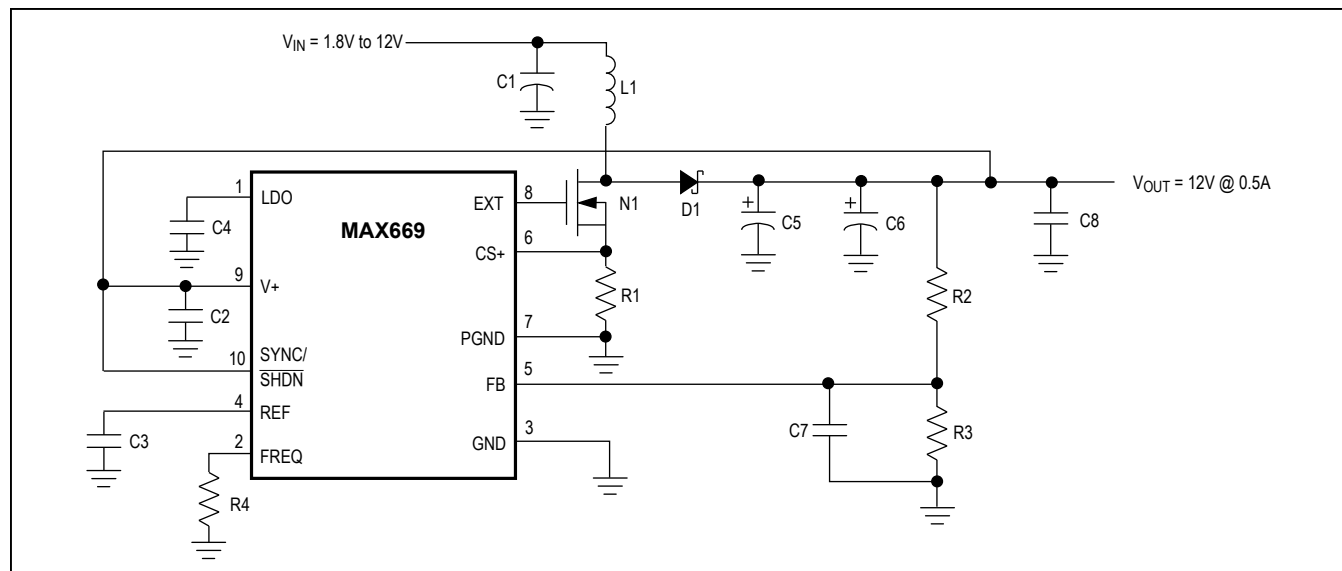
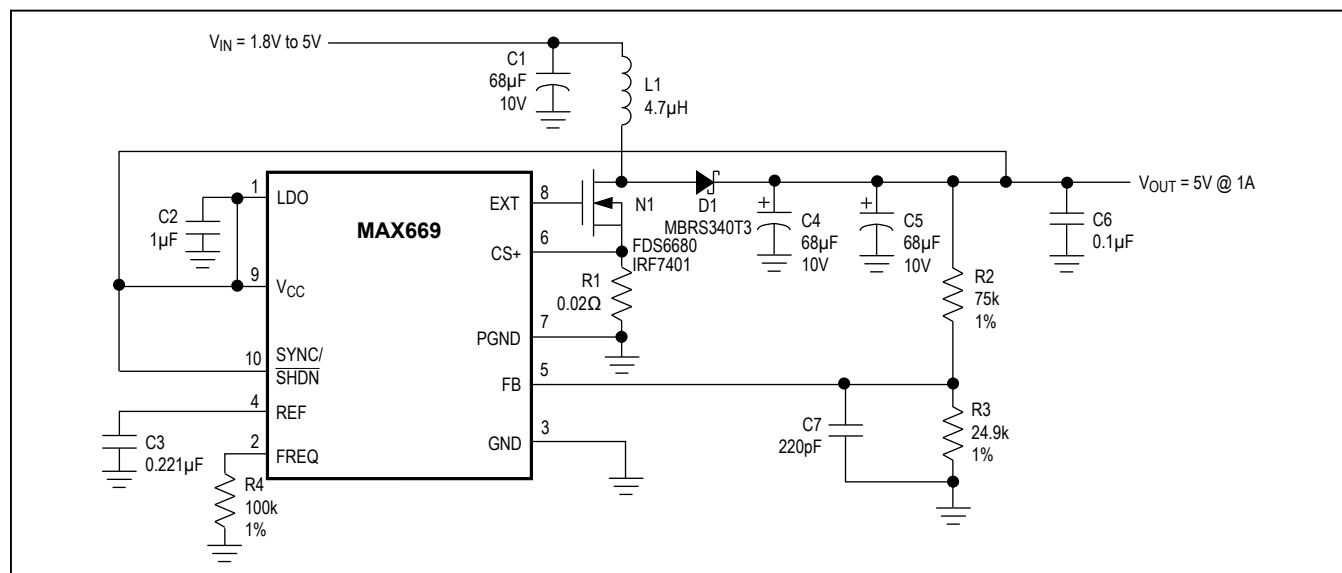
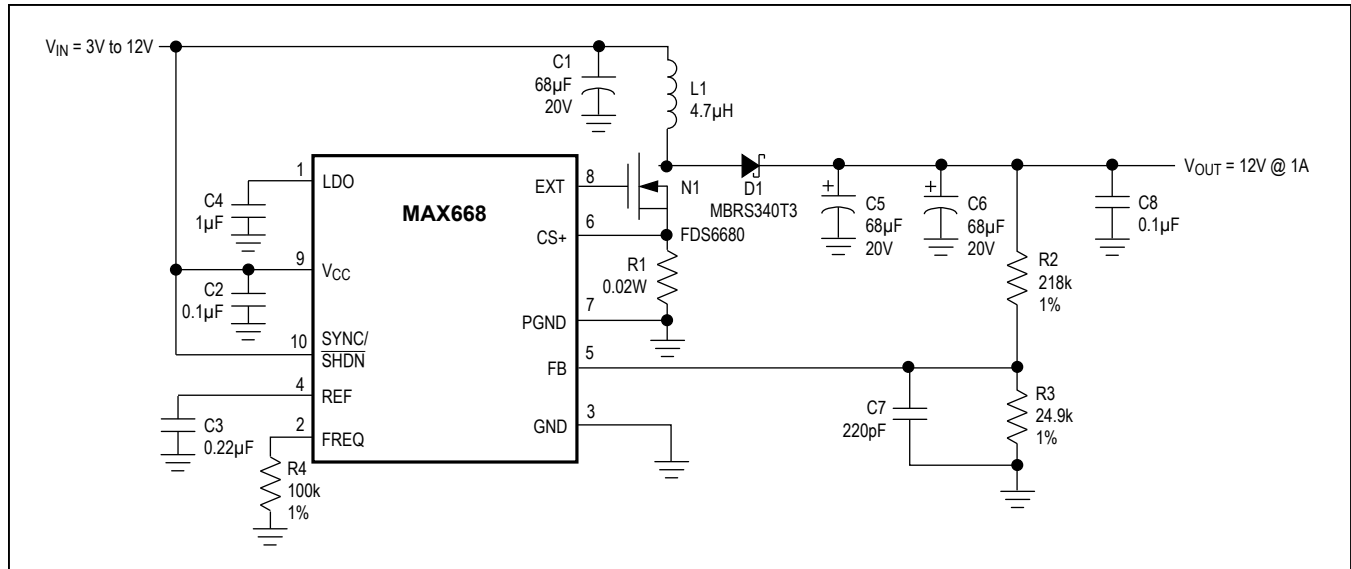
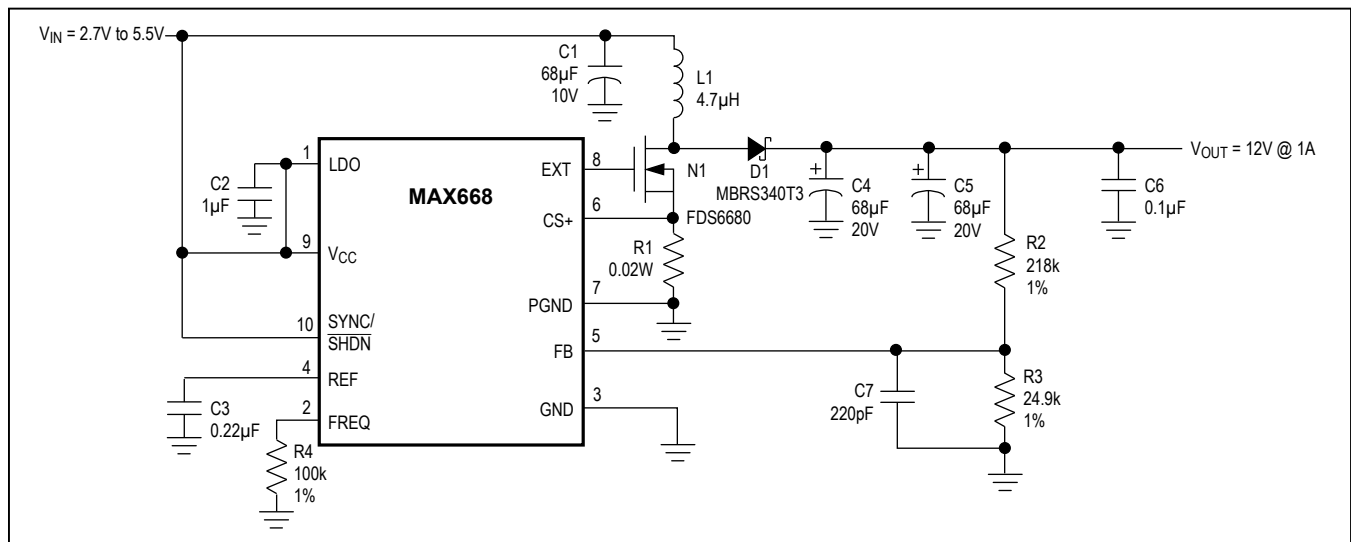

Figure 2. MAX669 High-Voltage Bootstrapped Configuration
Figure 3. MAX669 Low-Voltage Bootstrapped Configuration
Figure 4. MAX668 High-Voltage Non-Bootstrapped Configuration
Figure 5. MAX668 Low-Voltage Non-Bootstrapped Configuration
(Circuits of Figures 2, 3, 4, and 5; $T_A = +25^\circ\text{C}$; unless otherwise noted.)
Typical Operating Characteristics (continued)(Circuits of Figures 2, 3, 4, and 5; $T_A = +25^\circ\text{C}$; unless otherwise noted.)
V_{CC} and LDO allow a variety of biasing connections to optimize efficiency, circuit quiescent current, and full-load start-up behavior for different input and output voltage ranges. Connections are shown in Figure 2, Figure 3, Figure 4, and Figure 5. The characteristics of each are outlined in Table 1.
With V_{CC} connected to V_{OUT} , as in Figure 2, EXT voltage swing is 5V when V_{CC} is 5.2V or more, and $V_{CC} - 0.2V$ when V_{CC} is less than 5.2V. If the output voltage does not exceed 5.5V, the on-chip regulator can be disabled by connecting V_{CC} to LDO (Figure 3). This eliminates the LDO forward drop and supplies maximum gate drive to the external FET.
With non-bootstrapped operation, the IC is powered from the input voltage (V_{IN}) or another source, such as a logic supply. Non-bootstrapped operation (Figure 4) is recommended (but not required) for input voltages above 5V, since the EXT amplitude (limited to 5V by LDO) at this voltage range is no higher than it would be with bootstrapped operation. Note that non-bootstrapped operation is *required* if the output voltage exceeds 28V, since this level is too high to safely connect to V_{CC} . Also note that **only the MAX668 can be used with non-bootstrapped operation.**
If the input voltage does not exceed 5.5V, the on-chip regulator can be disabled by connecting V_{CC} to LDO (Figure 5). This eliminates the regulator forward drop and supplies the maximum gate drive to the external FET for lowest on-resistance. Disabling the regulator also reduces the non-bootstrapped minimum input voltage from 3V to 2.7V.
* For standard step-up DC-DC circuits (as in Figures 2, 3, 4, and 5), regulation cannot be maintained if V_{IN} exceeds V_{OUT} . SEPIC and transformer-based circuits do not have this limitation.
The output voltage is set by two external resistors (R_2 and R_3 , Figure 2, Figure 3, Figure 4, and Figure 5). First select a value for R_3 in the 10kΩ to 1MΩ range. R_2 is then given by:
where $R2$ and $R3$ are the feedback resistors (Figure 2, Figure 3, Figure 4, and Figure 5). If the calculated value for C_{FB} results in a non-standard capacitance value, values from 0.5 C_{FB} to 1.5 C_{FB} will also provide sufficient compensation.
In non-bootstrapped configurations (Figure 4, and Figure 5), the MAX668 can start up with any combination of output load and input voltage at which it can operate when already started. In other words, there are no special limitations to start up in non-bootstrapped circuits.
Figure 5 shows the MAX668 operating in a 5V to 12V boost application. This circuit provides output currents of greater than 1A at a typical efficiency of 92%. The MAX668 is operated in non-bootstrapped mode to minimize the input supply current. This achieves maximum light-load efficiency. If input voltages below 5V are used, the IC should be operated in bootstrapped mode to achieve best low-voltage performance.